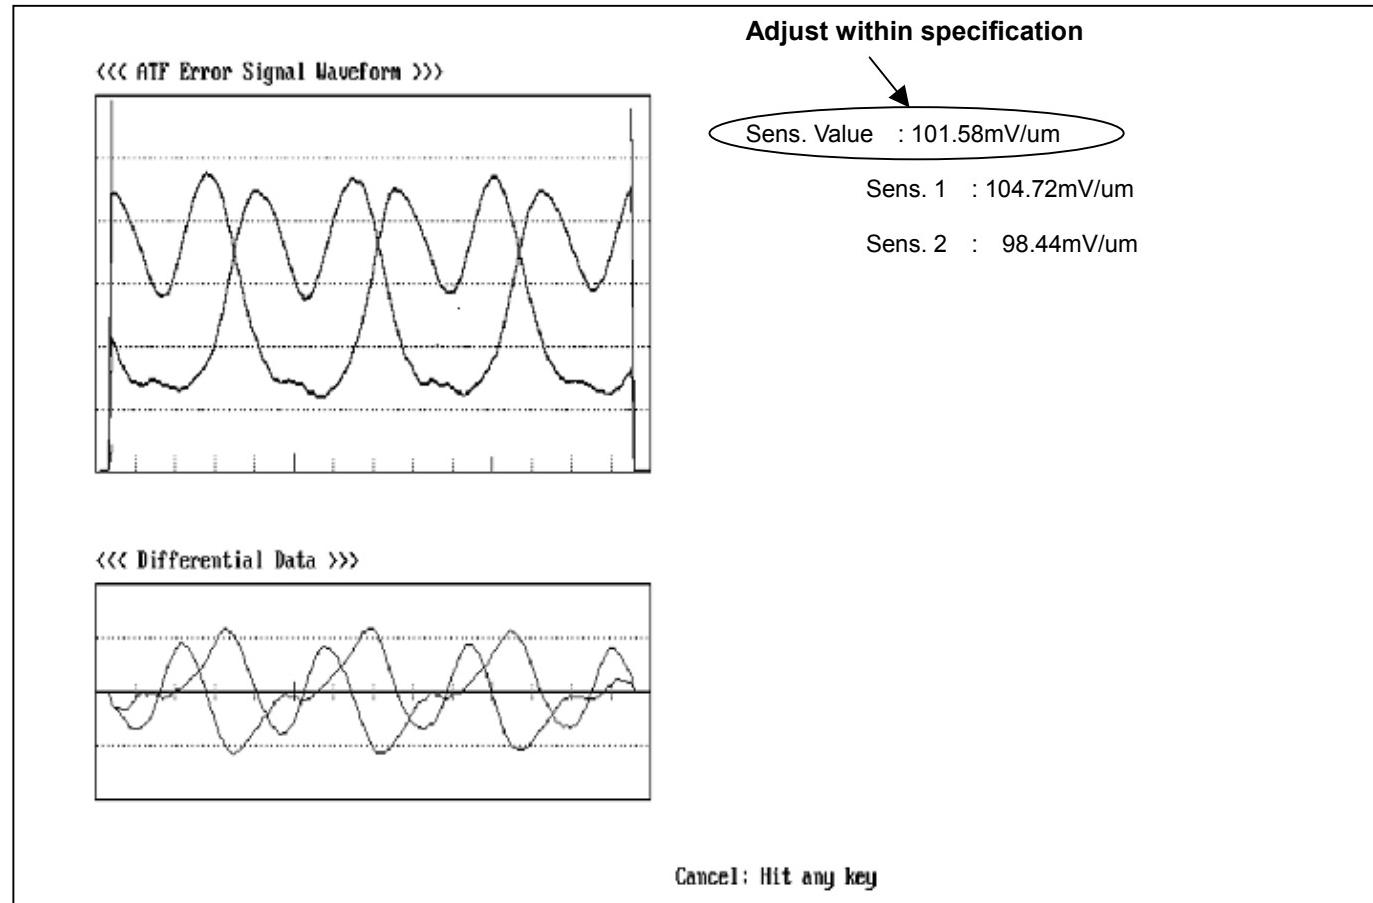

Figure 3-32-3
4. When the picture is appeared as shown in figure 3-32-3, adjust ATF Gain (A14: RPL GAIN 25) so that the "Sens. Value:" is in the Specification. To return the main menu, press ESC key.
5. Select Lista Main Menu "(1) Sensitivity Measurement" so that the screen of <ATF Error Signal monitor> appears (refer to 3-32-2).